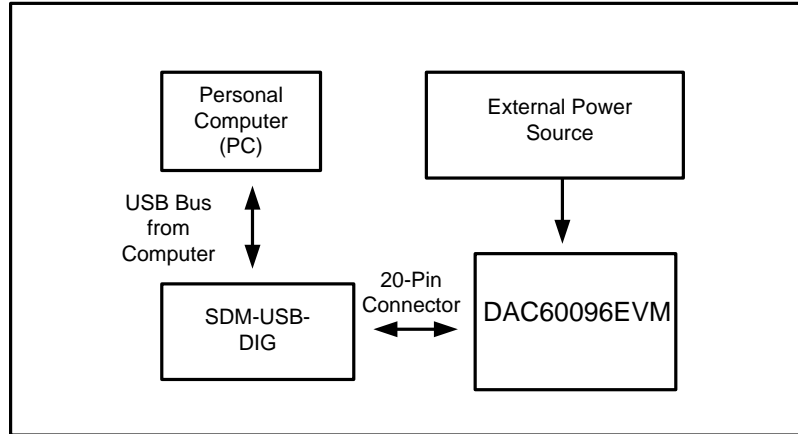

Figure 1. DAC60096EVM Hardware Setup
This section provides the overall system setup for the EVM. A personal computer (PC) runs software that communicates with the SDM-USB-DIG platform, which generates the optional DVDD power and digital signals used to communicate with the EVM board. Banana plug connectors are included on the EVM board for external power supplies. Figure 1 displays the system setup for the DAC60096EVM.